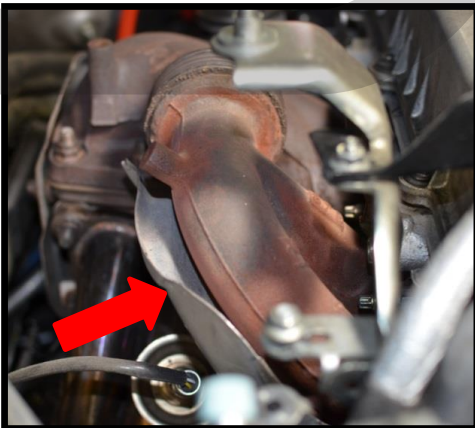

Figure 2b
- c) Remove the three 8mm bolts holding the lower heat shield shown with the red arrow in Figure 2b and the red circles in Figure 2c on the next page. Then remove the heatshield.